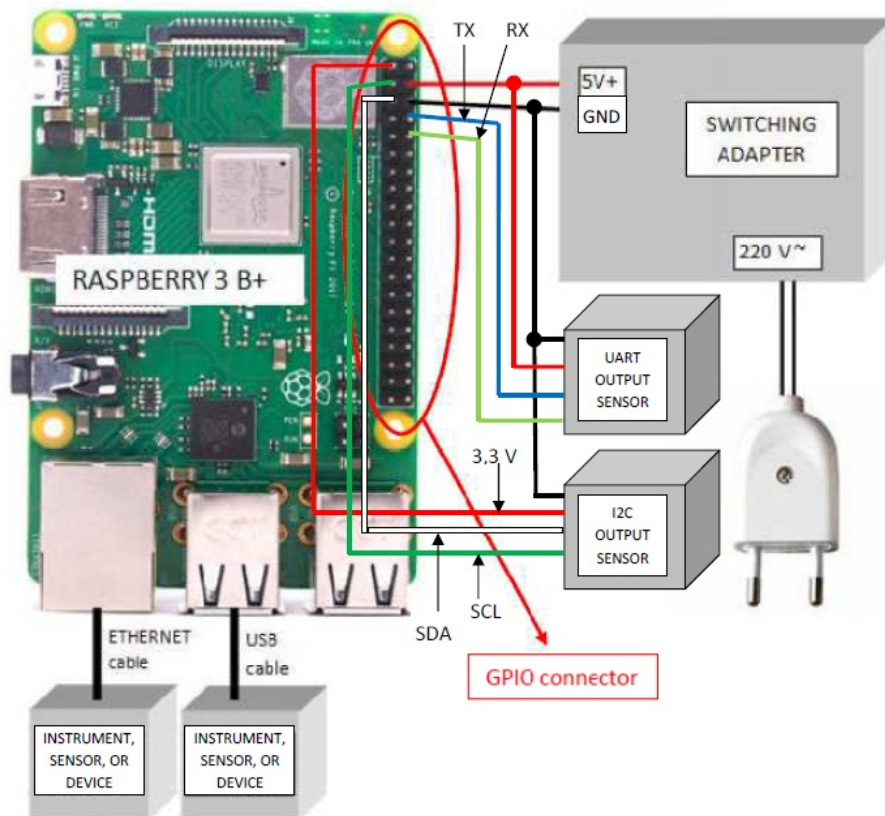

Figure 2: *SentinAir* hardware minimal configuration. Sensors/devices/instruments can be attached through the USB, Ethernet, Serial UART, or I2C port.
*SentinAir* is a modular and flexible system. The system hardware can be assembled in a minimal (see figure 2), or a typical configuration (see figure 3). The minimal hardware is composed of:
- a 5V power source capable of providing a direct current of 3A maximum. At the moment, the system has been tested with a switching ac/dc adapter (see figure 2).
The minimal configuration allows the user to use sensors/devices/instruments featured by a USB, serial UART, I2C, or Ethernet output interface, while analog output interfaces devices must be used with one of the analog-to-digital converter boards featuring the *SentinAir* typical hardware configuration. Ethernet or USB devices must be connected through the Ethernet and USB sockets (see figure 2), while I2C and serial devices must be connected to the Raspberry GPIO connector following the indications of figure 3.